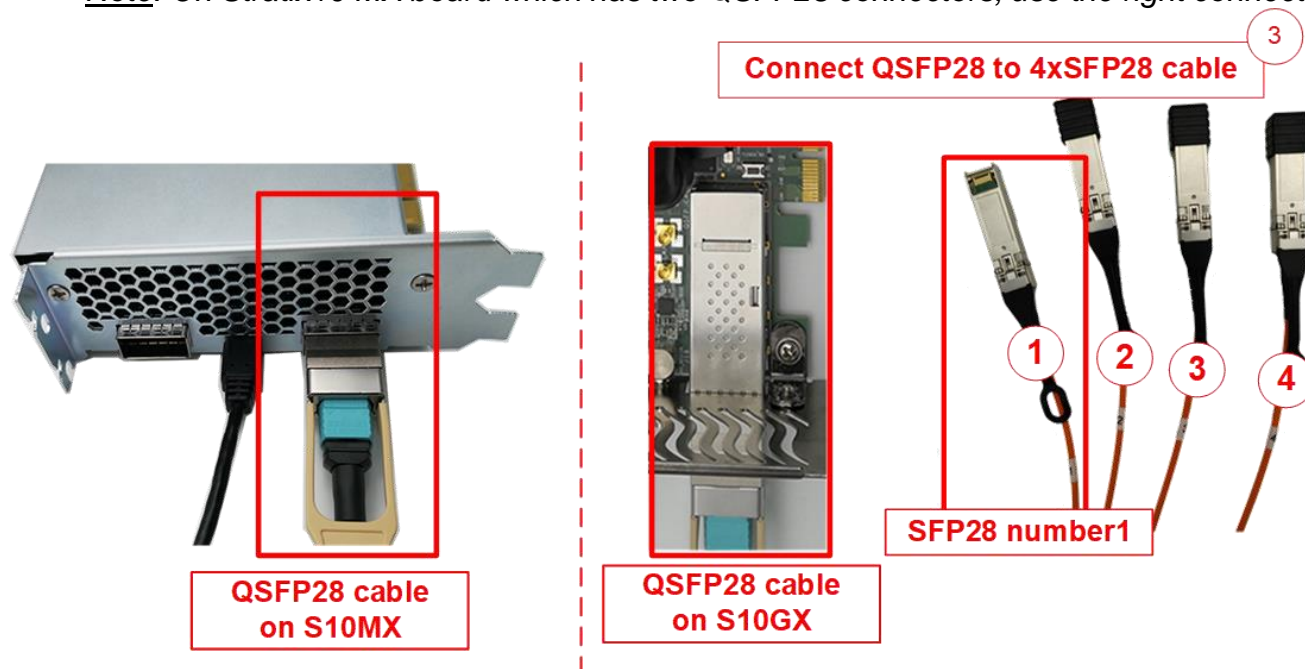

Figure 2-4 25Gb Ethernet connection
- 3) Connect 25Gb Ethernet cable between FPGA board and PC. Insert QSFP28 to 4xSFP28 cable between FPGA board and PC. Use SFP28 no.1 to connect to QSFP28, connector on the right side, as shown in Figure 2-4
*Note: If using Stratix10 MX board, please use the right connector, as shown in Figure 2-4.*